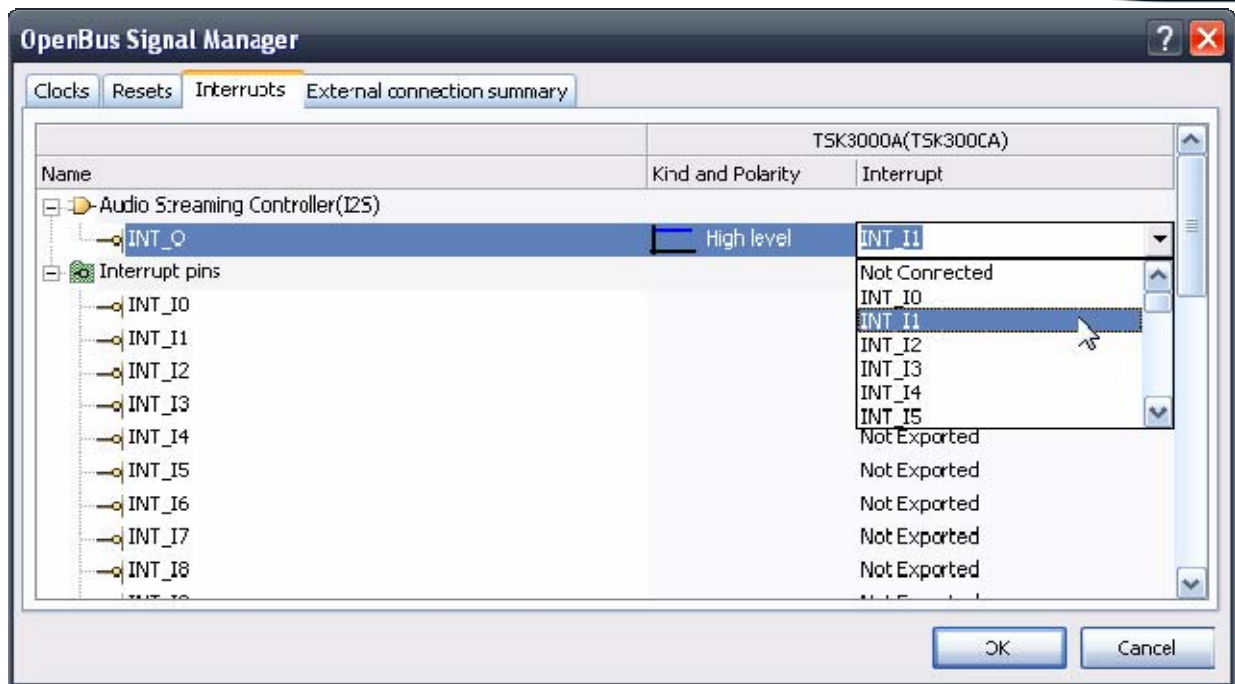

Figure 6. Set the Audio Streaming Controller to use Interrupt 1.
9. Set the **Interrupt** for the **Audio Streaming Controller (I2S)** to INT\_I1, as shown in Figure 6.